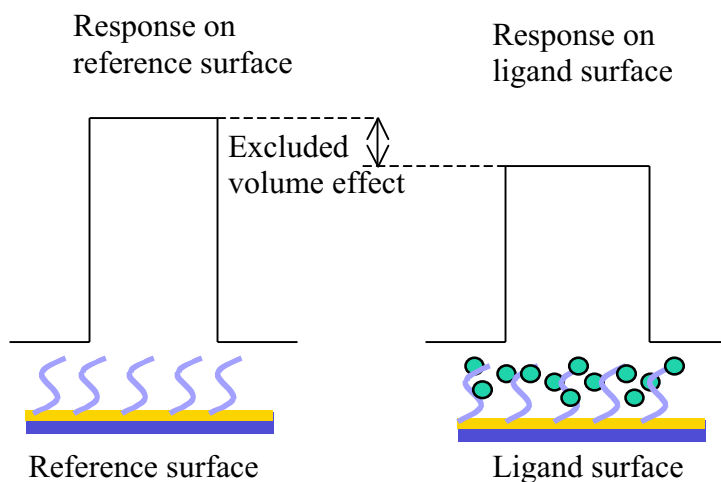

Figure 2.1
The SPR signal reflects changes in refractive index (RI) as a result of increases in mass at the sensor surface. If the injected sample has a RI different from that of the running buffer an additional signal is obtained known as the bulk refractive index, also referred to as a solvent effect. The solvent effect can usually be removed by subtracting the reference flow cell from the active flow cell when the solvent effect is small (~100 RU). However, in most small molecule assays where DMSO is used as the solvent, the subtraction of the reference response does not eliminate the contribution of the solvent to the measured response because a higher DMSO bulk response will be obtained from the reference surface. Bulk solution is excluded from the volume occupied by ligand molecules on the ligand spot, so the bulk contribution to the relative response is smaller than on the reference spot (Figure 2.1).